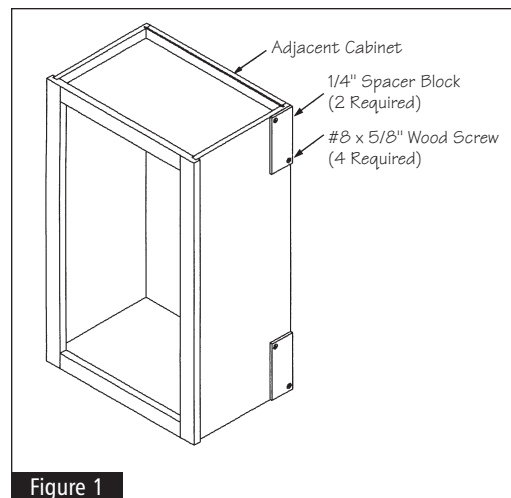

Figure 1
- 1** Cut the 1/4" wood spacer in half and attach to the rear of the side panel of the adjacent cabinet. Drill and countersink two 3/32" diameter pilot holes through each spacer and attach the spacers to the cabinet side panel to which the SEW will be mounted using two #8 x 5/8" wood screws for each spacer. Make sure the screw head is flush with spacer surface. See Figure 1.